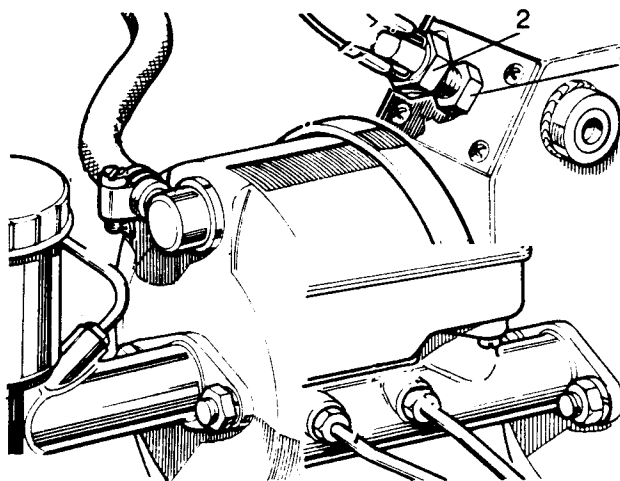

Fig K1.2
- (2) Refer to Fig K1.2. If the brake stop lights do not come on after 19 to 25 mm of brake pedal travel, reset the switch by loosening the lock-nut (1) and screwing the switch (2) out until the correct travel is achieved.
- (3) If the stop lights still do not come on after resetting to 19 to 25 mm of pedal travel, either the switch or the electrical circuit may be faulty. Check and rectify the fault or replace the switch.